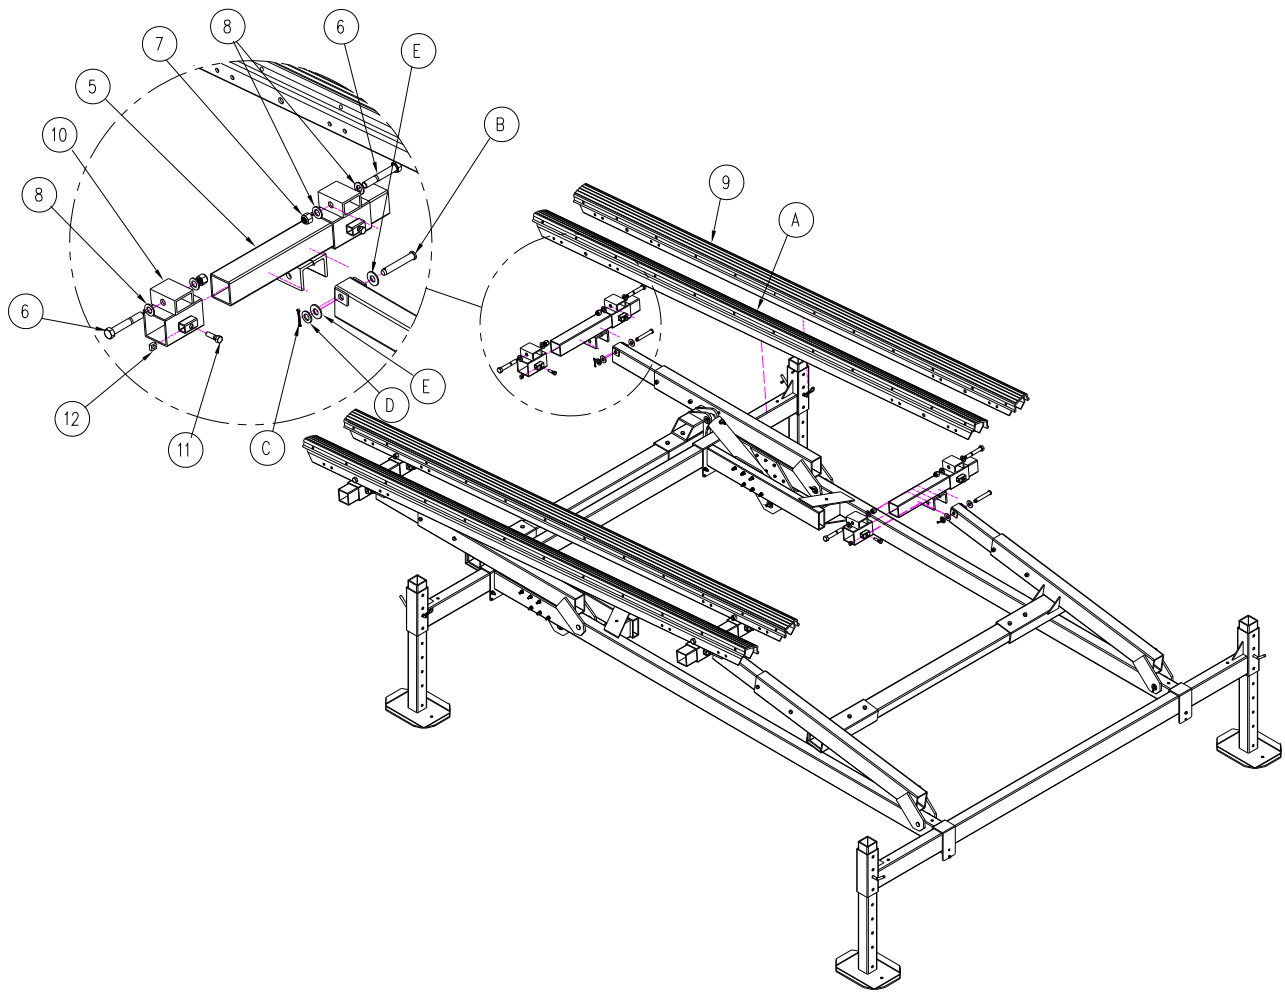

Figure 2-5.
1. **Refer to Figure 2-5.** The HL adjustable Width Lift Arms Tritoon Kit includes four bunk support tube brackets that must be installed on the lift arms. Using parts A thru E removed in section 2.3, install the Tritoon Brackets on each end of Lift Arm.
2. Assemble eight HL bunk mount brackets. Install the eight 1/2-13 square nut (12) & eight 1/2-13 x 1-3/4 bolt (11) onto the bunk mount bracket (10).
3. Slide the bunk mounting brackets onto the bunk support bracket (5). Adjust the bunk mount bracket and lock in position using the 1/2-13 x 1-3/4 bolt.
1. **Refer to Figure 2-5.** The HL adjustable Width Lift Arms Tritoon Kit includes four new Bunks (9) to install on the Lift.
2. Install the bunks onto the adjustable bunk mounting brackets using the eight 3/4-10 x 5 bolt (8), sixteen 3/4 flat washer (8) & eight 3/4-10 Nylock Hex nut (7).